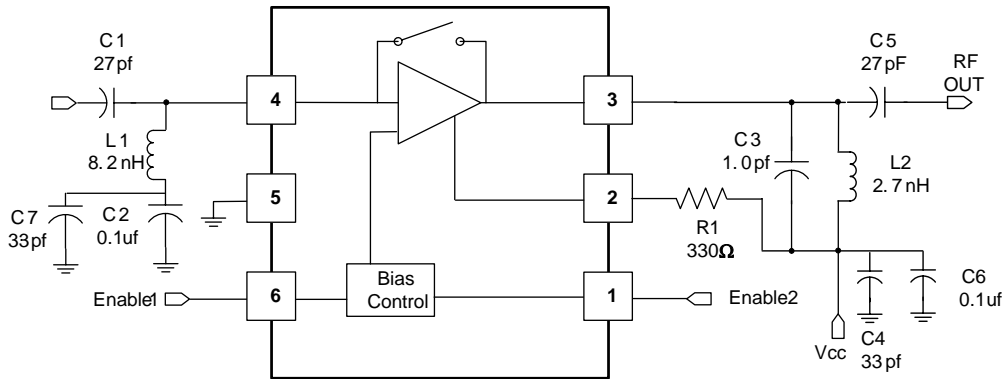
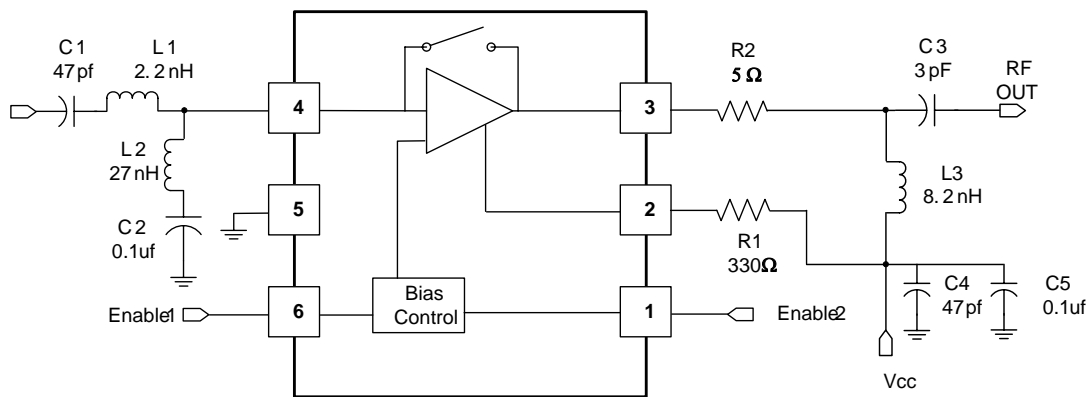
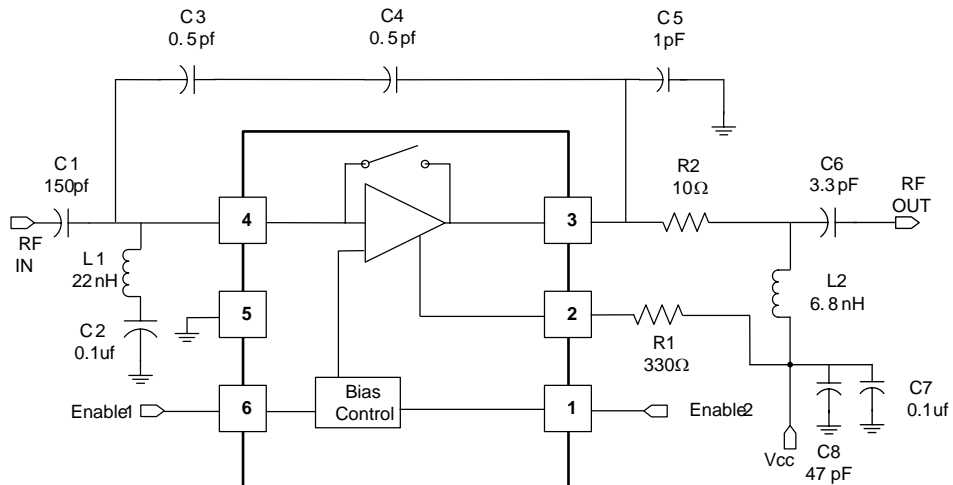

Figure 2. Typical 1.9 and 2.4 GHz LNA Application Schematic
Figure 3. Typical 900 MHz LNA Application Schematic
Figure 4. High IP3 900 MHz LNA Application Schematic
In the design of the external matching network, conjugate matching does not necessarily provide the best noise figure performance. Balancing between noise figure, gain, and intercept point is the major design consideration. Typical circuits are provided in Figure 2 and Figure 3 for 1.9 GHz, 2.4 GHz and 900 MHz applications.
Figure 2 shows the typical application circuit at 1.9 and 2.4 GHz. The noise figure, input intercept point, gain, and return losses are optimized. L1 and C2 act as a low frequency trap to improve the input intercept point.
In Figure 3, the typical application circuit for 900 MHz is shown. The input low frequency trap again is used to maximize the input intercept point. It has moderate IP3 performance and high gain. Figure 4 shows
1900 MHz Figure 2 Application Circuit
900 MHz Figure 3 Application Circuit
High IP3 900 MHz Figure 4 Application Circuit
900 MHz TYPICAL (See Figure 3)
900 MHz HIGH IP3 (See Figure 4)
1.9 GHz (See Figure 2)
2.4 GHz (See Figure 2)